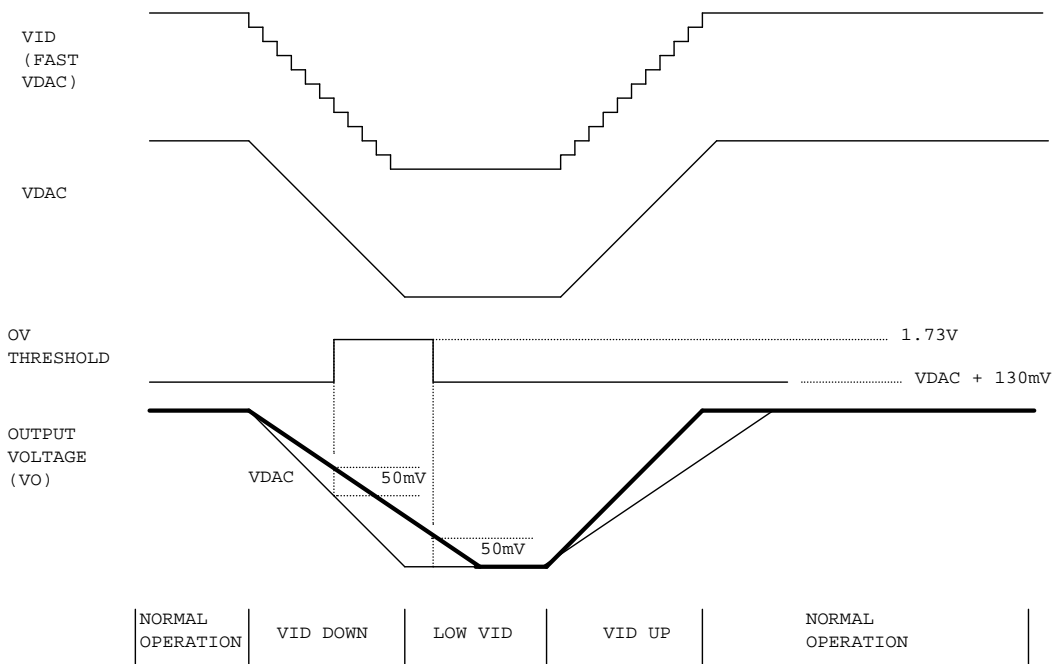

Figure 17 Over-voltage protection during dynamic VID
If either remote sense line VOSEN+ or VOSEN- or both are open, the output of remote sense amplifier (VO) drops. The IR3502B monitors VO pin voltage continuously. If VO voltage is lower than 200 mV, two separate pulse currents are applied to VOSEN+ and VOSEN- pins respectively to check if the sense lines are open. If VOSEN+ is open, a voltage higher than 90% of  $V(VCCL)$  will be present at VOSEN+ pin and the output of open line detect comparator will be high. If VOSEN- is open, a voltage higher than 700mV will be present at VOSEN- pin and the output of open-line-detect comparator will be high. The open sense line fault latch is set, which pulls error amplifier output low immediately and shut down the converter. The SS/DEL voltage is discharged and the fault latch can only be reset by cycling VCCL power. During dynamic VID down, OVP may be triggered when output voltage can not follow VDAC voltage change at light load with large output capacitance. Therefore, over-voltage threshold is raised to 1.73V from  $VDAC+130mV$  whenever dynamic VID is detected and the difference between output voltage and VDAC is more than 50mV, as shown in Figure 17. The over-voltage threshold is changed back to  $VDAC+130mV$  if the difference is smaller than 50mV.